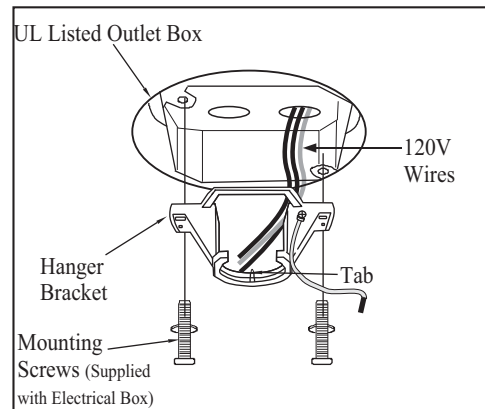

Figure 11
- Pass the 120-volt supply wires through the center hole in the hanger bracket as shown in Figure 11.
- Install the hanger bracket on the outlet box with the screws and washers provided with your outlet box (Figure 11).